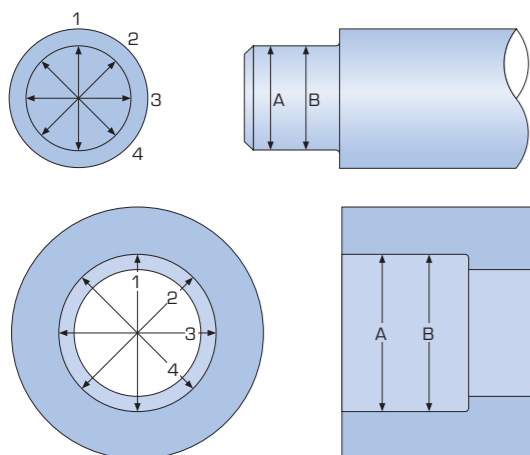

Figure 9.1 Shaft Diameter and Housing Diameter Measurement Locations
- Confirm that the shaft and housing are finished in accordance with the drawings, and check and record dimensions, shoulder squareness, and the corner radius. As shown in Figure 9.1, measure the shaft diameter and housing bore at two locations in the axial direction and four locations radially.